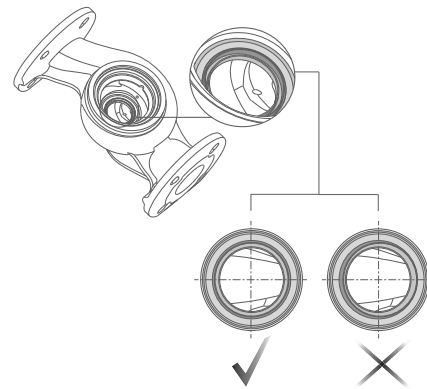

Fig. 10 Centering of neck ring
1. Visually check that the neck ring is centered in the pump housing. See fig. 10.